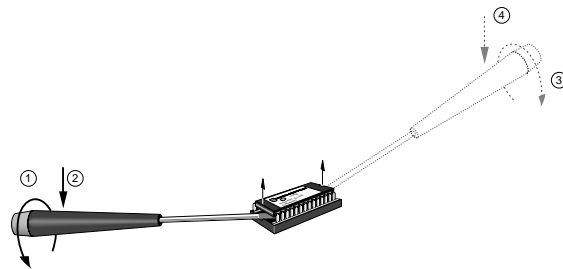

FIGURE I-5. Removing the PROM with a Screwdriver
- a) Insert the end of a small flat-bladed screwdriver underneath the PROM, then gently rotate the screwdriver to slightly lift the PROM from the PROM socket (① on Figure I-5).
- b) Gently pry up the end of the PROM to about 1/8" off the socket (② on Figure I-5).
- c) Move the screwdriver to the other end of the PROM and perform the same procedure (③ and ④ on Figure I-5).